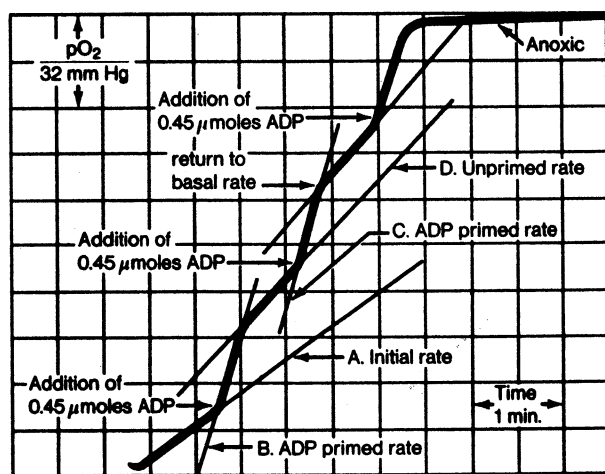

Figure 7. Record of oxidative activity of Mitochondria isolated from beef heart and primed with ADP.
13. Establish the base-line activity for the sample (see Figure 7) as shown by the expected unstimulated slope.
Figure 7 shows the results of a similar experiment performed with YSI biological oxygen instrumentation. Obviously, the results of the user's experiments will not numerically match either the application example described above, or the record shown in Figure 7 below.